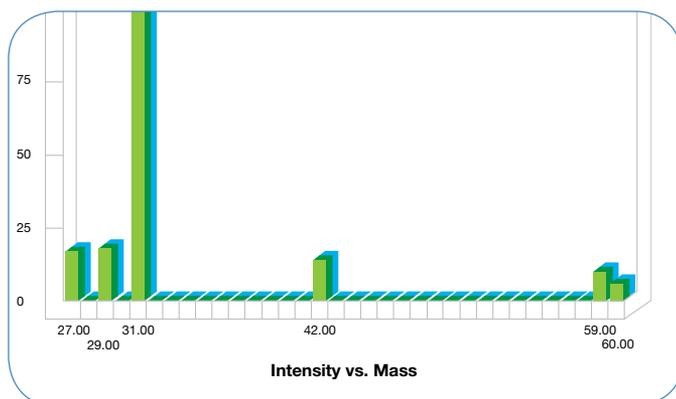
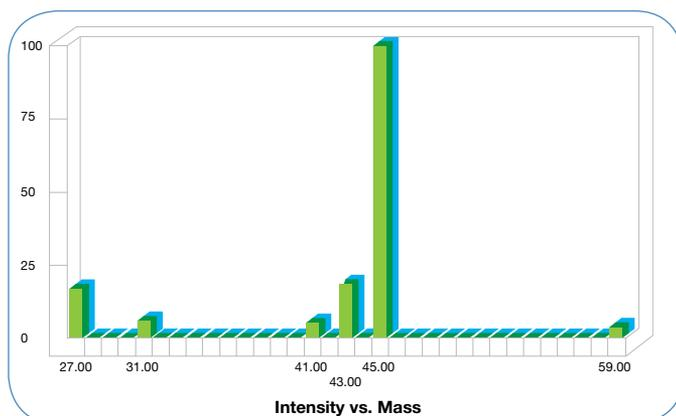

Figure 1.
Figure 2.
- The fragmentation patterns of the molecules in the MS ion source are effectively ‘fingerprints’, simplifying the analysis of even complex mixtures. As an example, figure 1 shows the fragmentation pattern for n-propanol; figure 2 shows that of iso-propanol. Both figures are from the Thermo Scientific Gas-Works process MS software package.